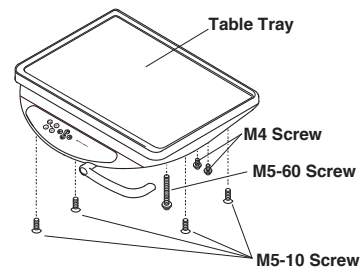

Fig.4-1 Doctor Table
(1) Removing Doctor Table Top (Fig.4-1)